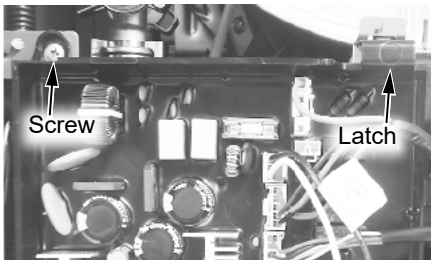

Figure 4 - Control board location
- 15** Locate the screw securing the control board panel as shown in Figure 4. Use a Phillips screwdriver to remove the screw and place it aside in a safe place for reinstallation.